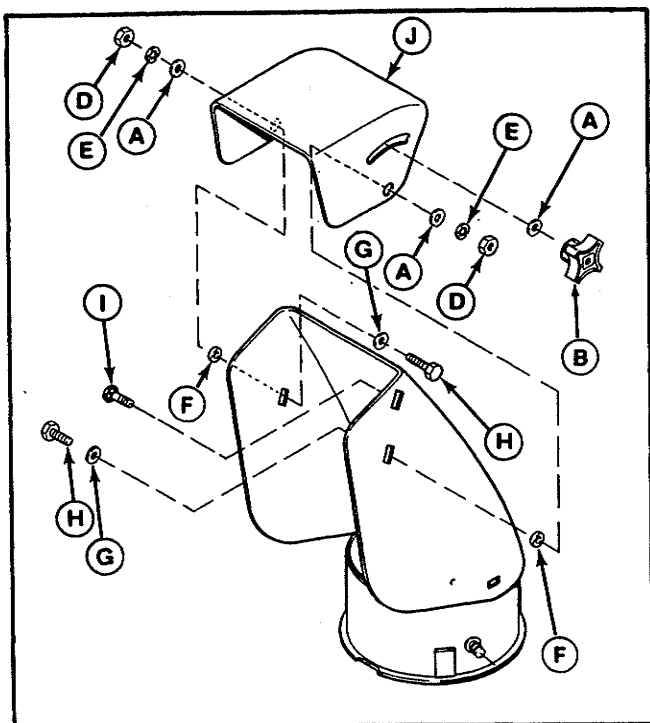
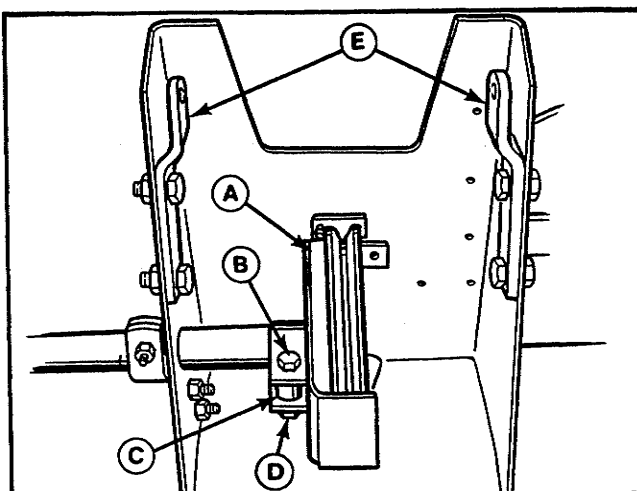
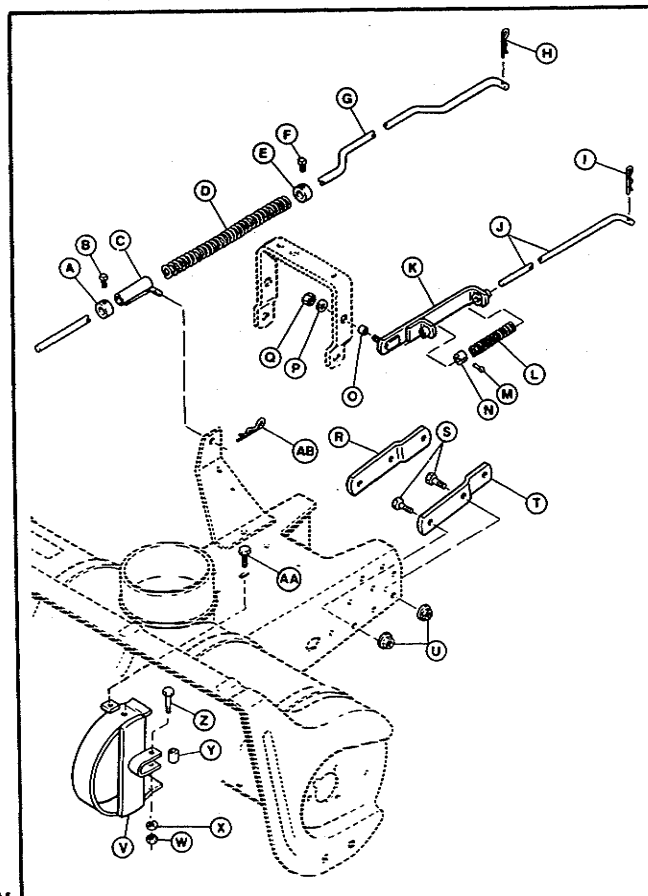

Figure 18. Installing Deflector
Figure 19. Belt Guide Installed
Figure 20. Snowthrower Assembly
7. Attach the deflector (C, figure 18) to the spout extension with two screws (H), washers (G), spacers (F), washers (A), lockwashers (E) and nuts (D).
8. Position the bolt (I) and washer (A) and then thread the knob (B) onto the bolt (I).
9. Install the two clips (R and T, figure 20) with four capscrews (S) and locknuts (U) as shown. The clips are shown installed in figure 19.
10. Slip the belt onto the pulley inside the snowthrower. Install the belt guide (A, figure 19) onto the pulley. Insert the spacer (C) inside the clamp and install the capscrew (B), lockwasher and nut (D).
11. Install the self-tapping screw (AA), figure 20 from top of housing into the belt guide to secure belt guide in place.